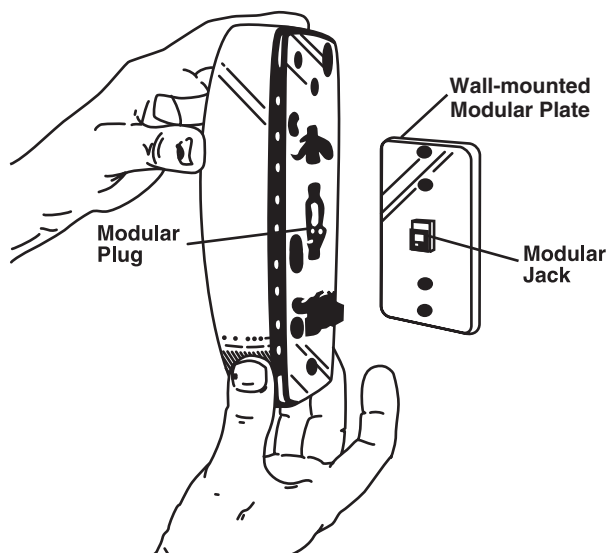

Figure 5-2. Modular jack and plate for mounting wall phones.
- **Connecting block:** Wall-mounted phones have a pair of slots and a sliding modular plug on the back (Figure 5-2). The phone is attached to a “connecting block” on the wall, which has two rivets that fit into the slots and a modular jack that accepts the plug located on the back of the phone.